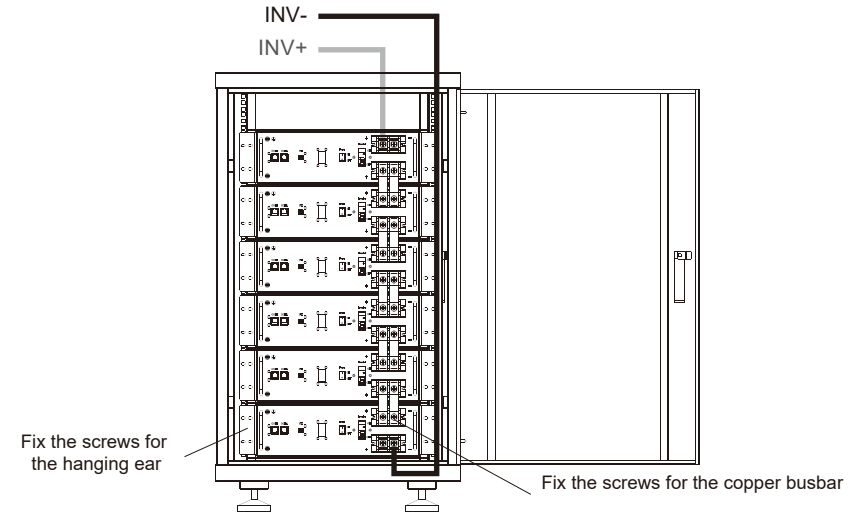

Figure 4 Install battery module & connect copper busbar (Take G2500-48 as an example)
Step 2: As shown in Figure 4, put the battery into the cabinet, tighten the four-angle screws (M6*12 screw, torque: 5 N.m); and fix the copper busbar between the battery modules with 3#cross screwdriver (M8; torque: 12 N.m).